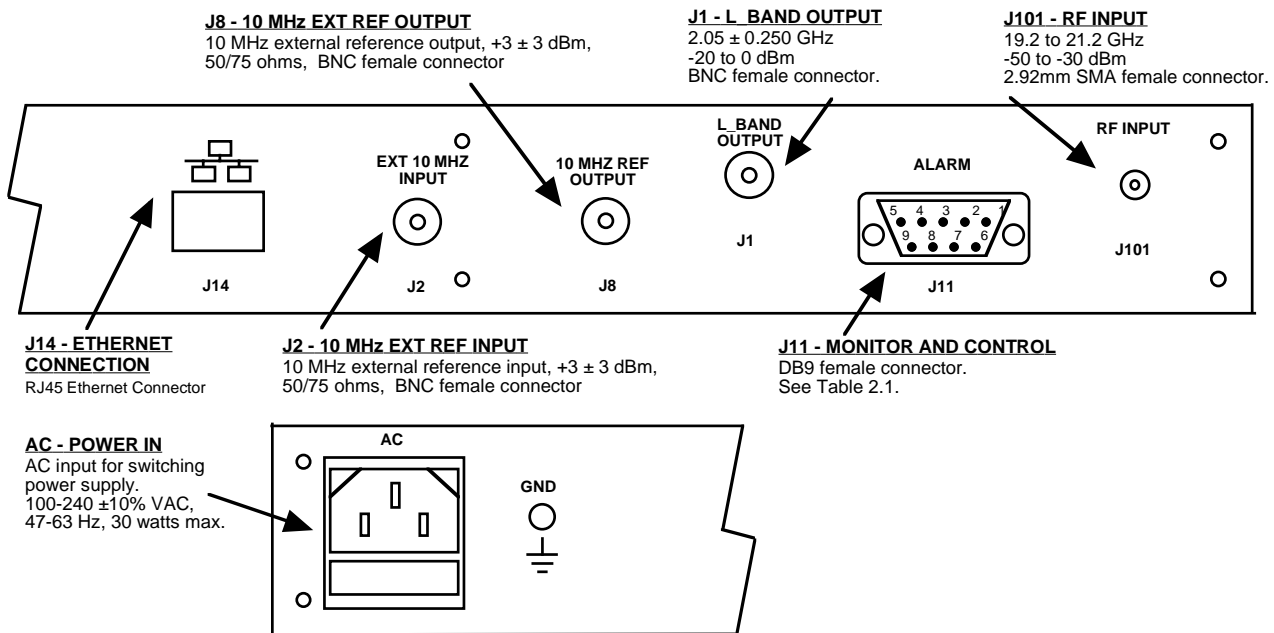

FIGURE 2.1 3116-192#-2050 Rear Panel I/O's
Figure 2.1 shows the input and output connectors on the rear panel.
1. Connect a -50 dBm to -30 dBm signal to RF IN, J101 (Figure 2.1).